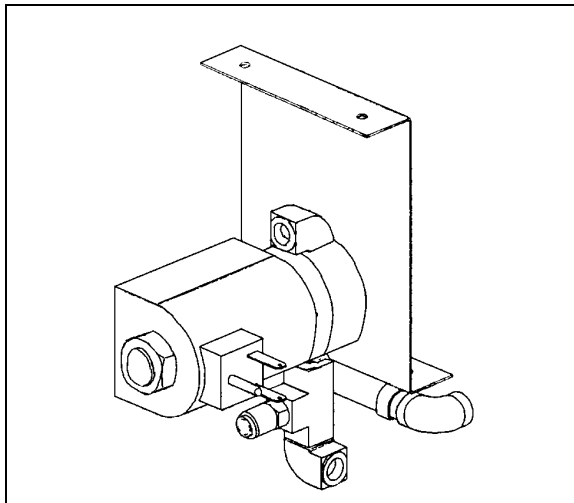

FIGURE 33: AIR HORN VALVE
The windshield wipers are controlled by two electric wiper motors that are accessible for maintenance after raising the appropriate access panel at the front of the coach (refer to figure 33).
Depress the upper windshield wiper switch located on the dashboard L.H. side to the first position for intermittent wiping, and to the second position for continuous wiping (item 1, fig. 33).
8. Connect the windshield washer tubing at the base of the wiper arm (Fig. 33 and 37);
5. Install the right wiper arm in its normal position (in the middle of the windshield (Fig. 33)). Refer to paragraph "9.2.1 Sweep Adjustment".
3. Install the left wiper arm in its normal position (in the middle of the windshield (Fig. 33)). Refer to paragraph "10.2.1 Sweep Adjustment".
5. Install the right wiper arm in its normal position (in the middle of the windshield (Fig. 33)). Refer to paragraph "10.2.1 Sweep Adjustment".